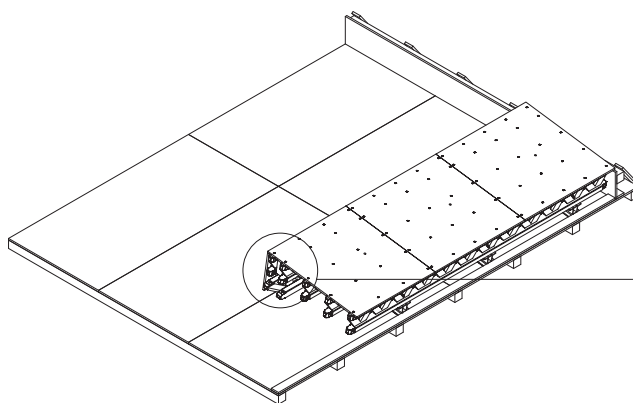

Fig. A2.07
7. Position formlining and then secure. Fix using approx. 10 TSS Torx 6 x 60, or TSS Torx 6 x 60 ZKS per m². Drill holes with a Ø 20 mm bit. (Fig. A2.07)